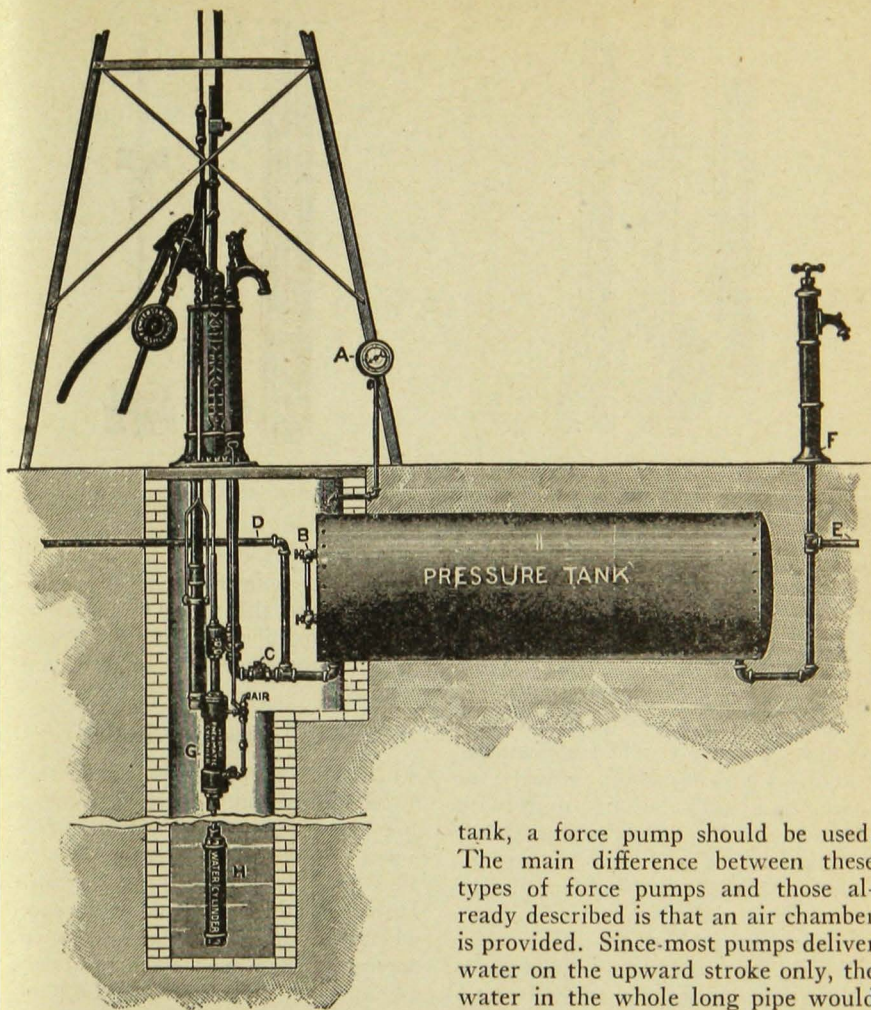

Fig. 4
If a person wishes to fit his well so that he can use a hydropneumatic water system, he should provide for pumping air into the tank along with the water. One way of doing this is illustrated in Fig. 4. The upper cylinder (G) pumps air while the lower one (H) pumps water. The valve at the right side of the illustration, marked "Air," can be left closed if the pressure tank contains sufficient air.